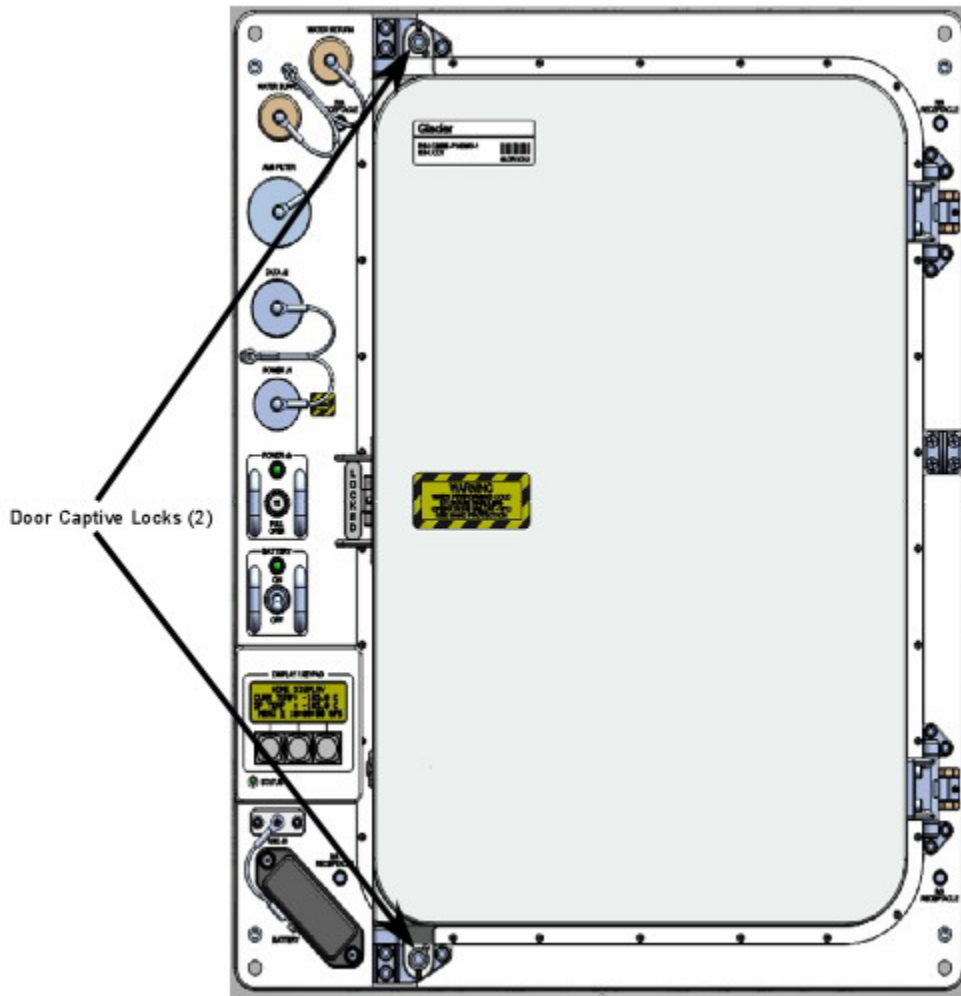

Figure 2.- Glacier Door Captive Locks.
- 4.3 Fasten Glacier Door Captive Locks (two), torque to 75 in-lbs using 3/16" Hex Head, 3/8" Drive, 1/4" - 3/8" adapter, 4" Extension, 1/4" Drive, (40 to 200 in.-lbs.) Trq Wrench 1/4" Drive. See Figure 2.